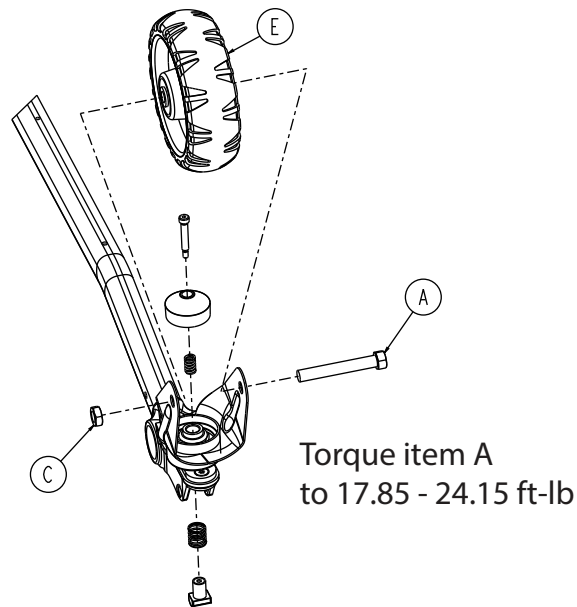

Figure 51 – Transport wheel components
4. Using a ratchet, 11/16" socket wrench, and 5/8" combination wrench, remove the hex head cap screw (A) and toplock hex thin nut (C) that secure the 6 inch molded wheel assembly (E) to the caster horn (Figure 51). Remove and discard the wheel. Save the screw and nut.